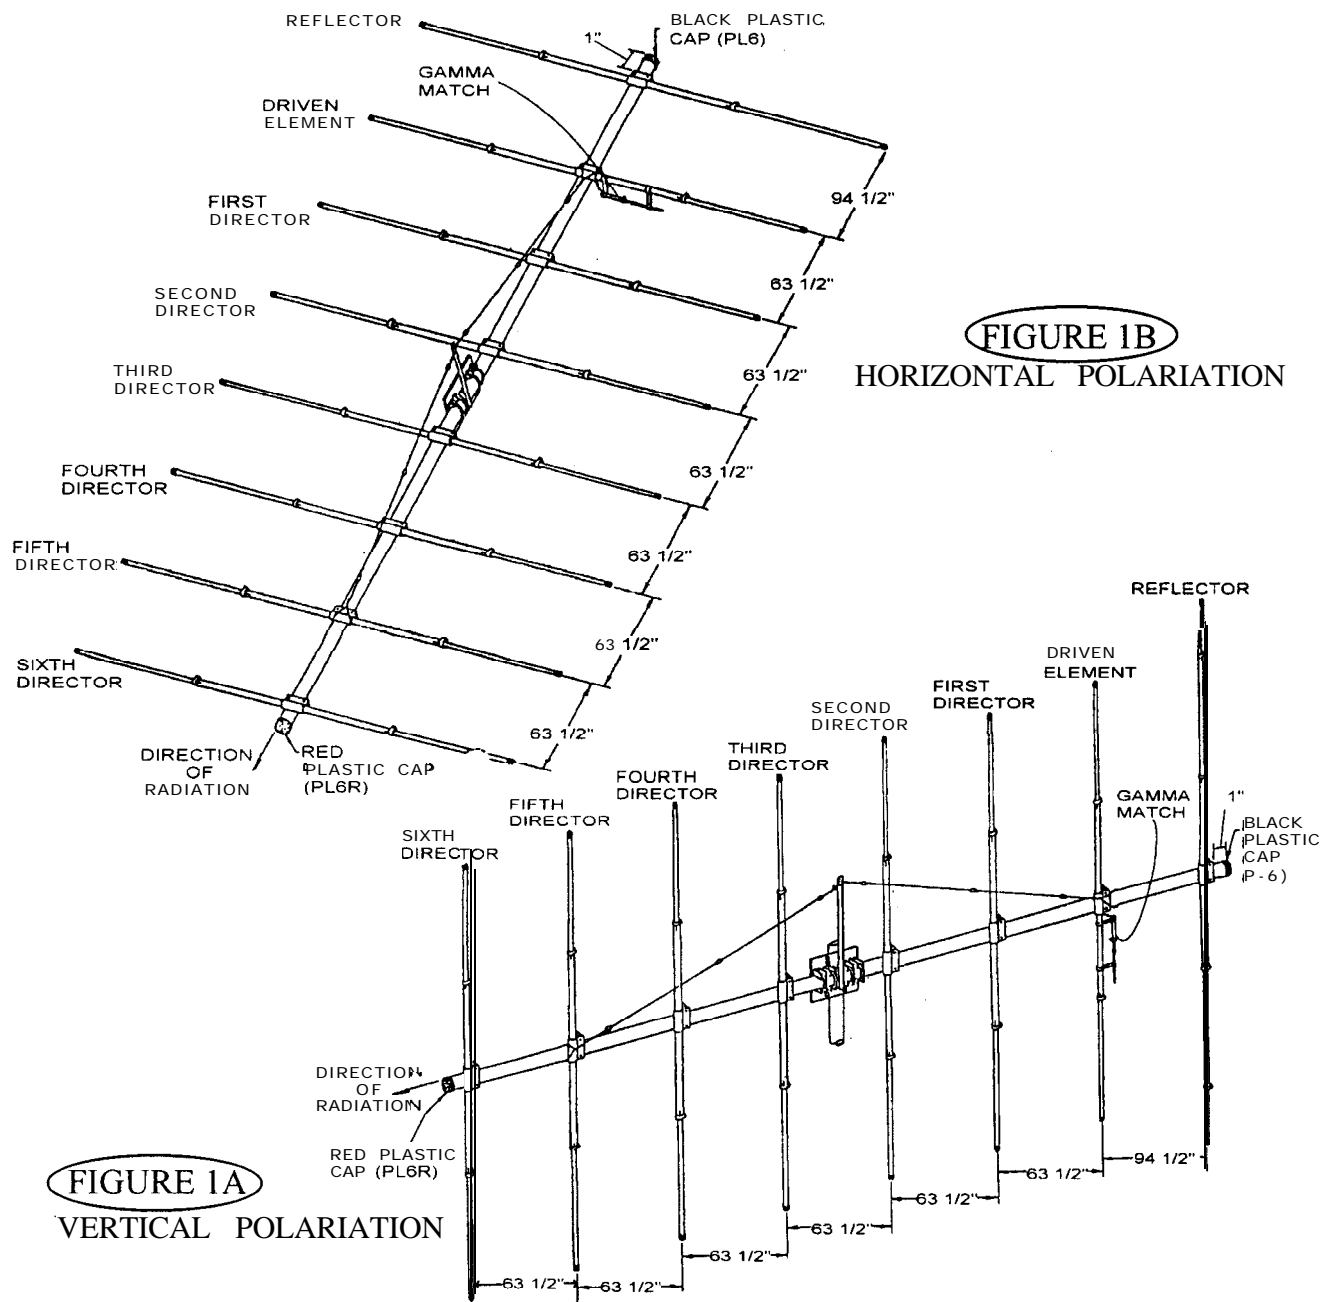
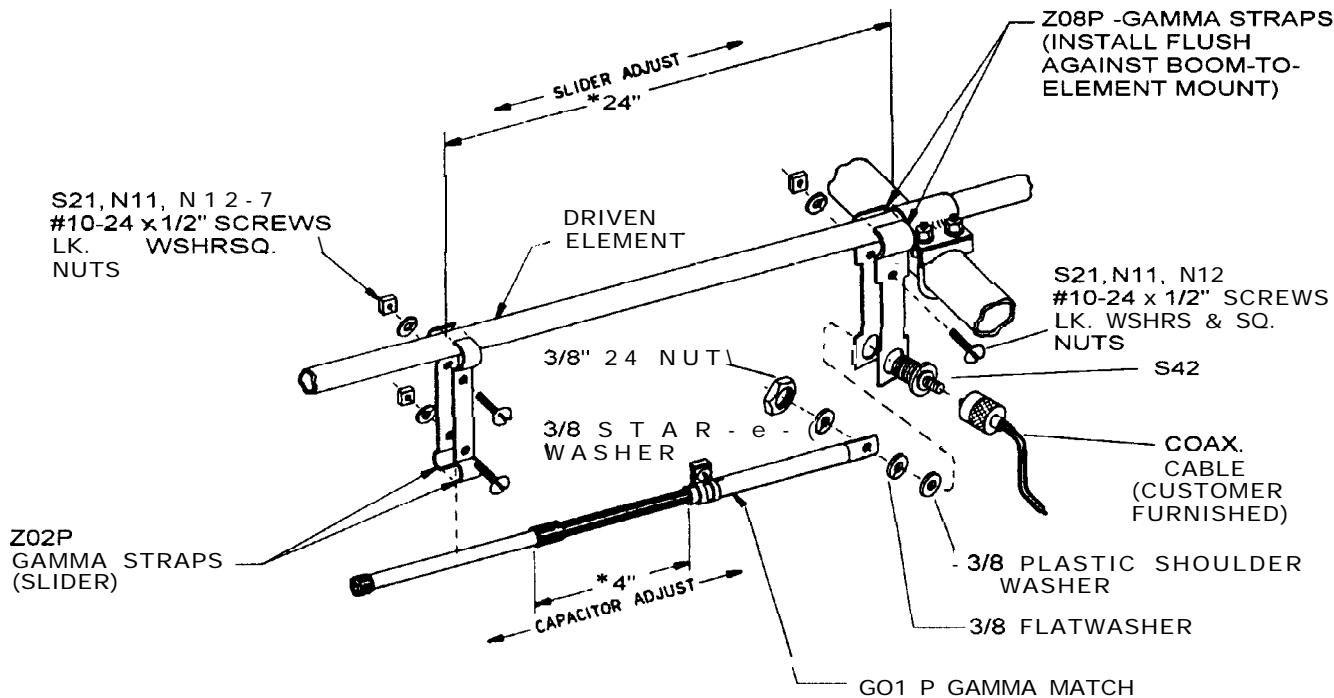

FIGURE 1A
FIGURE 4 GAMMA MATCH MOUNTING
Refer to the main sketch (Figures 1A & B) for spacing of the elements. Slide the 5/8" x 6' center sections inside the boom to element mounts. Mount these onto the boom with 3" U-bolt assemblies as shown. Refer to Figure 4 (Gamma Match Assembly) before mounting the driven element and note the position of the coaxial connector assembly. Space the first saddle 1" from the end of the boom. Again, be careful not to over-tighten the U-bolts. Line up all the sections after mounting with a level or by any other accurate means. At this time, refer to Figure 2B and complete the boom guy support system.
Assemble the W58 clamps as shown in Figure 2B. Thread the 1/2" machine screw (S21) into the square nuts (N1) only slightly at this time. Refer to Figure 4 (Gamma Match Assembly) and note the position of the 5/8" metal clamps that will attach the gamma match to the driven position.
Refer to Figure 4. The dimensions given are approximate and should be used as a starting point. * The gamma match has 2 adjustments. First is the capacitor adjust and second is the slider adjust. Connect a SWR bridge coax between your transmitter and the antenna and check the SWR. If adjustment is required, loosen the clamp on the gamma match and the screws holding the slider (gamma straps (202)). Next move the capacitor adjustment first one direction, then the other until a minimum SWR reading is obtained. If SWR is not yet satisfactory, move the slider out 2" away from the boom. If the reading has gone up move the slider back to the original position and then 2" towards the boom. Now readjust the capacitor for minimum SWR. You should now be able to determine which direction to move the slider. Repeat the above procedure moving the slider in smaller increments until a satisfactory SWR is obtained. Tighten all hardware. Disconnect the SWR bridge and reconnect your coaxial cable.